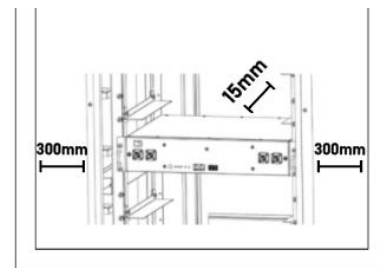

Figure3-4
3. Clearances required around battery, Shows as Figure3-4